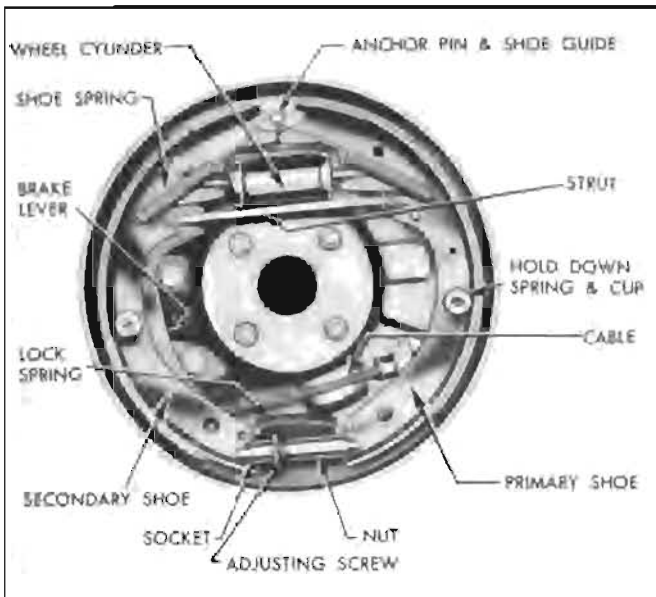

Figure 8-10—Rear Wheel Brake Assembly—Right
lever (rear only). See figure 8-10.
3. Separate the brake shoes by removing adjusting screw and lock spring. Remove parking brake lever from secondary brake shoe (rear lever (rear only)). See figure 8-10.
2. On rear brakes only, lubricate fulcrum end of parking brake lever and the bolt with Bendix or Delco Brake Lubricant, or Lubriplate, then attach lever to secondary shoe with bolt, spring washer, nut, and Pal nut. Make sure that lever is free moving. See figure 8-10.
4. Attach brake shoes to backing plate with hold down springs, pins, and cups, at the same time engaging shoes with wheel cylinder connecting links. The primary shoe (short lining) goes forward. On rear brakes, connect cable to parking brake lever and install strut between lever and primary shoe as installation is made. See figure 8-10.